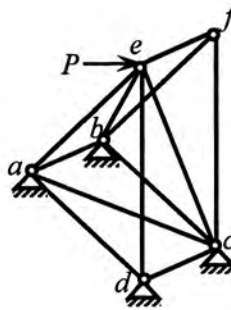

Fig.2
2. Ignore zero-force members and apply boundary conditions to form the stiffness matrix of the space truss *abcdef* as shown in Fig.2 [Given: $S_x = \text{constant} = 10^5 \text{ N/mm}$].